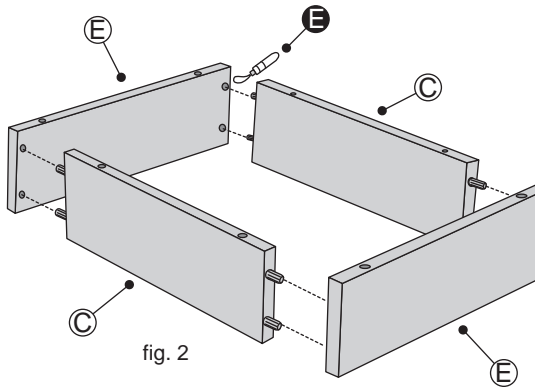

fig. 2
2. Place a small amount of Glue **E** into the dowel holes and onto the joints surfaces. Fix the Base End Panels **C** onto the Base Side Panels **E**. See fig. 2.